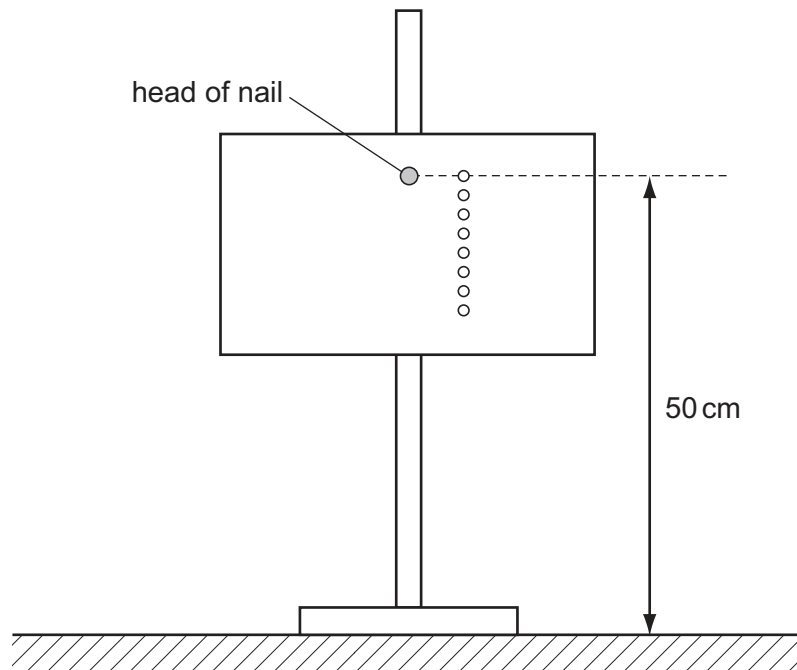

Fig. 1.3
- 3 The board should be pivoted on the nail, which should be mounted in the boss as shown in Fig. 1.3. Ensure that the board can swing freely, and that the head of the nail prevents the board falling off.